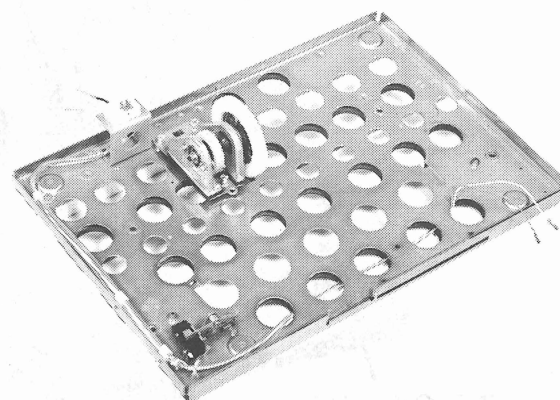
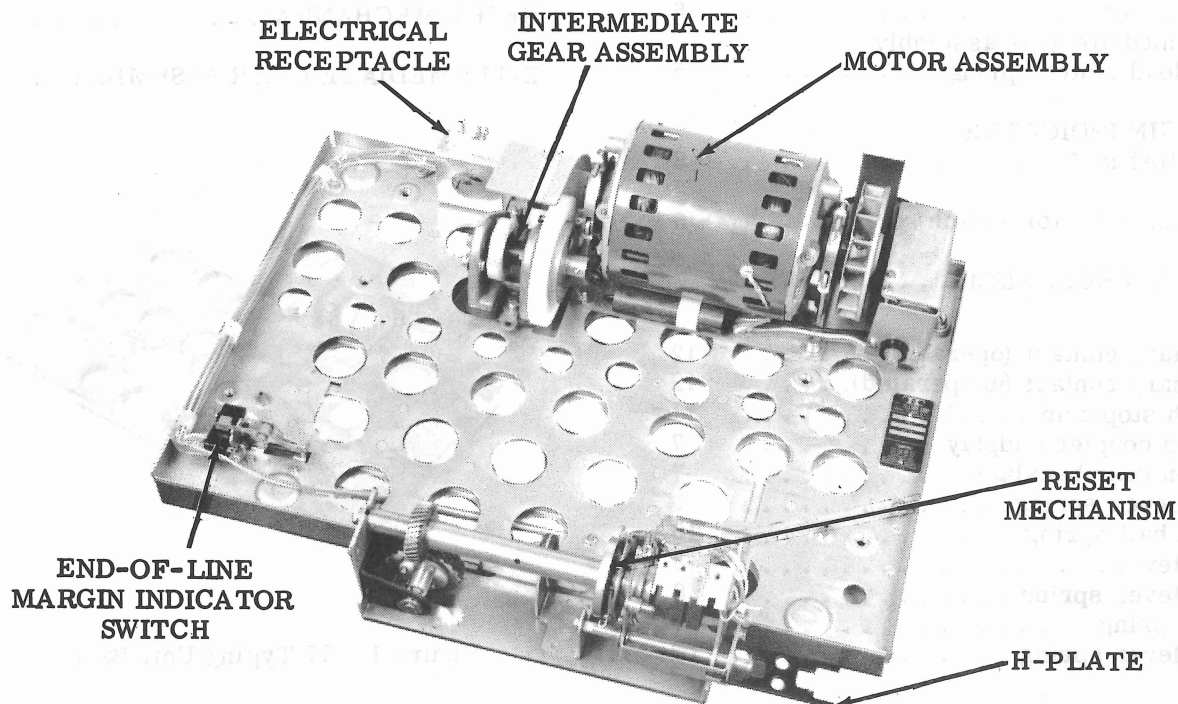

Figure 1 - 37 Typing Unit Base
Figure 2 - Typing Unit Base With Motor
1.01 This section contains information for the typing unit base (Figure 1) which consists of the intermediate gear assembly, end-of-line margin indicator switch, and reset mechanism (Figure 2). It is reissued to incorporate disassembly and reassembly information for the reset mechanism and the intermediate gear assembly which was removed from Section 574-321-705. Arrows in the margin indicate changes and additions.